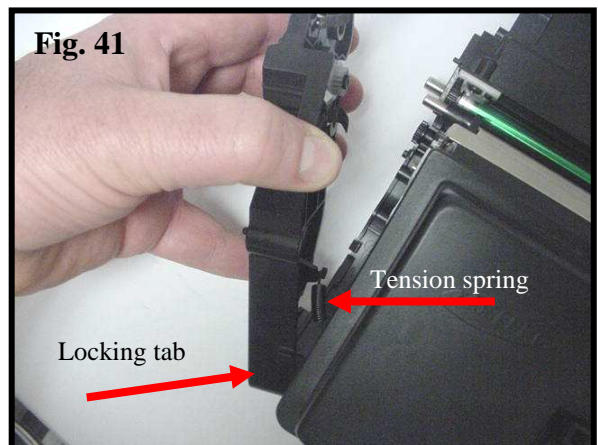

Fig. 41
41. Install the last end cap to the locking tab on the toner hopper (Fig. 41). Attach the tension spring to the toner hopper and end cap. Rotate the end cap down and snap in place to the cartridge frame, secure with two screws.